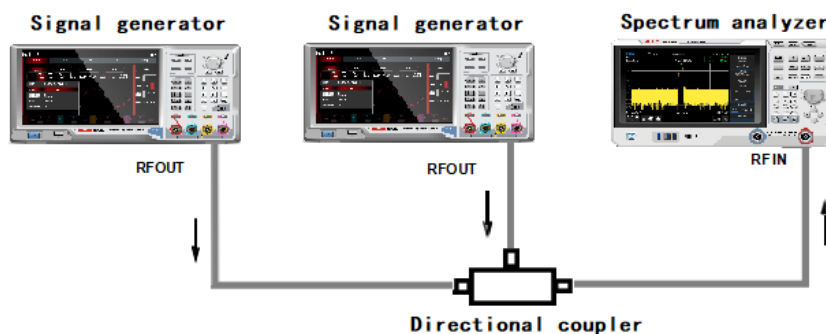

Figure 3-4: Instrument Setting for Acquire Two Channel's Signal
1. As shown in Figure 3-4, connect two signal sources to RF IN port via directional coupler.
1. As shown in Figure 3-4, connect two signal sources to input port of the spectrum analyzer.